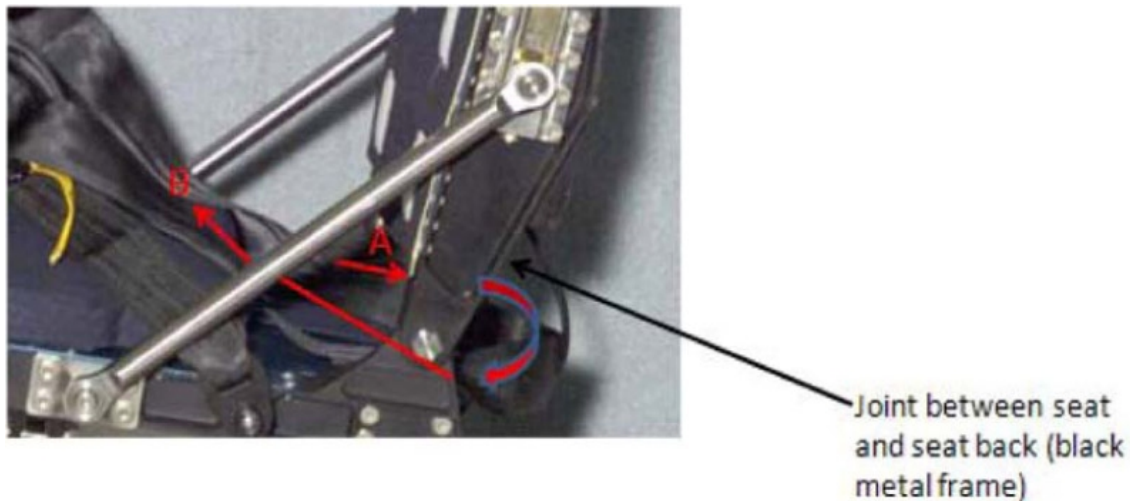

Figure 4. Lap Belt and Seat Back Joint Illustration
3.1 Lengthen lap belt straps and wrap lap belt straps around the joint between the seat and the seat back (black metal frame) by wrapping from the inside of the frame then around the joint (point A to point B in Figure 4).
3.1.1 Ensure that lap belt adjustment is accessible and possible. Refer to Figures 4 and 5.